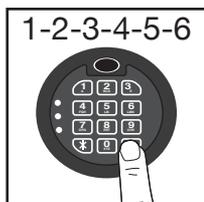

Figure 4.1
1. Enter the preset factory code “1-2-3-4-5-6”. You will hear two (2) beeps and the green LED will flash (Figure 4.1).